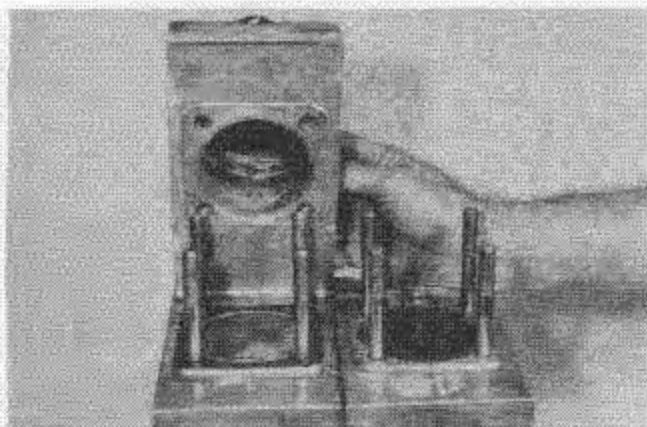

Fig. 18 — Installing Cylinder Head
portion of combustion chamber toward exhaust side of engine. See Fig. 18. Install washers and nuts tightened to 25-30 ft.-lbs. torque.
5. Install cylinder head with flat portion of combustion chamber toward exhaust side of engine, Fig. 18. Secure head using washers, spacers and nuts tightened to 18-21 ft.-lbs. torque MF 304 and MF 304T — all others tighten 25-30 ft.-lbs. torque.